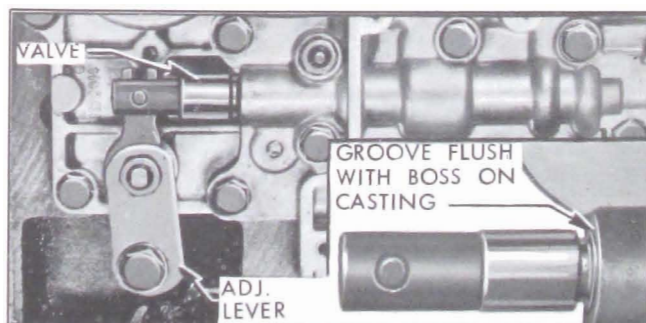

Figure 5-127—Position of Control Valve in Direct Drive Range
8. Move shift lever to Direct Drive position and note position of control valve. The groove in the first land of the valve should be flush with the boss on the valve body. See Figure 5-127.